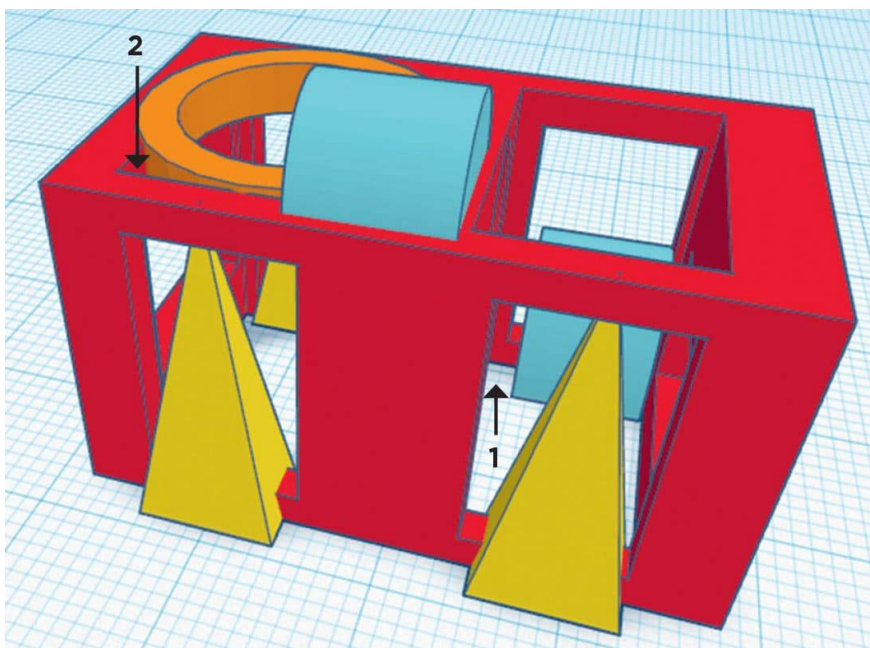

FIG. 4: Use a variety of shapes to create nooks in the coral reef.
3. Add assorted shapes to the frame to partially block some big holes (to keep the bigger fish out) and also to create nooks that will change the direction of the flow of water and slow it down. See fig. 4 where arrows 1 and 2 show small nooks in the reef.